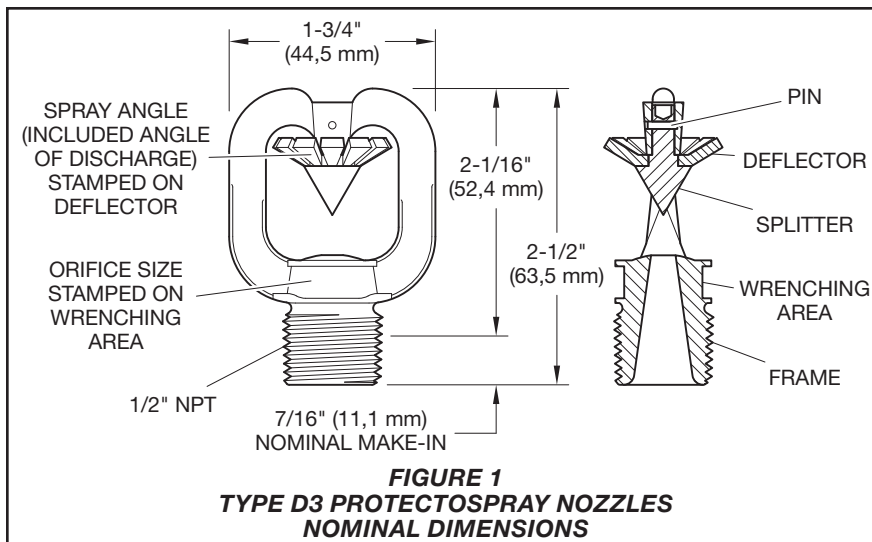

FIGURE 1
Step 2. Tighten the nozzle into the nozzle fitting using only the W-Type 11 Sprinkler Wrench (Figure 3). With reference to Figure 1, apply the W-Type 11 Sprinkler Wrench to the wrenching area.